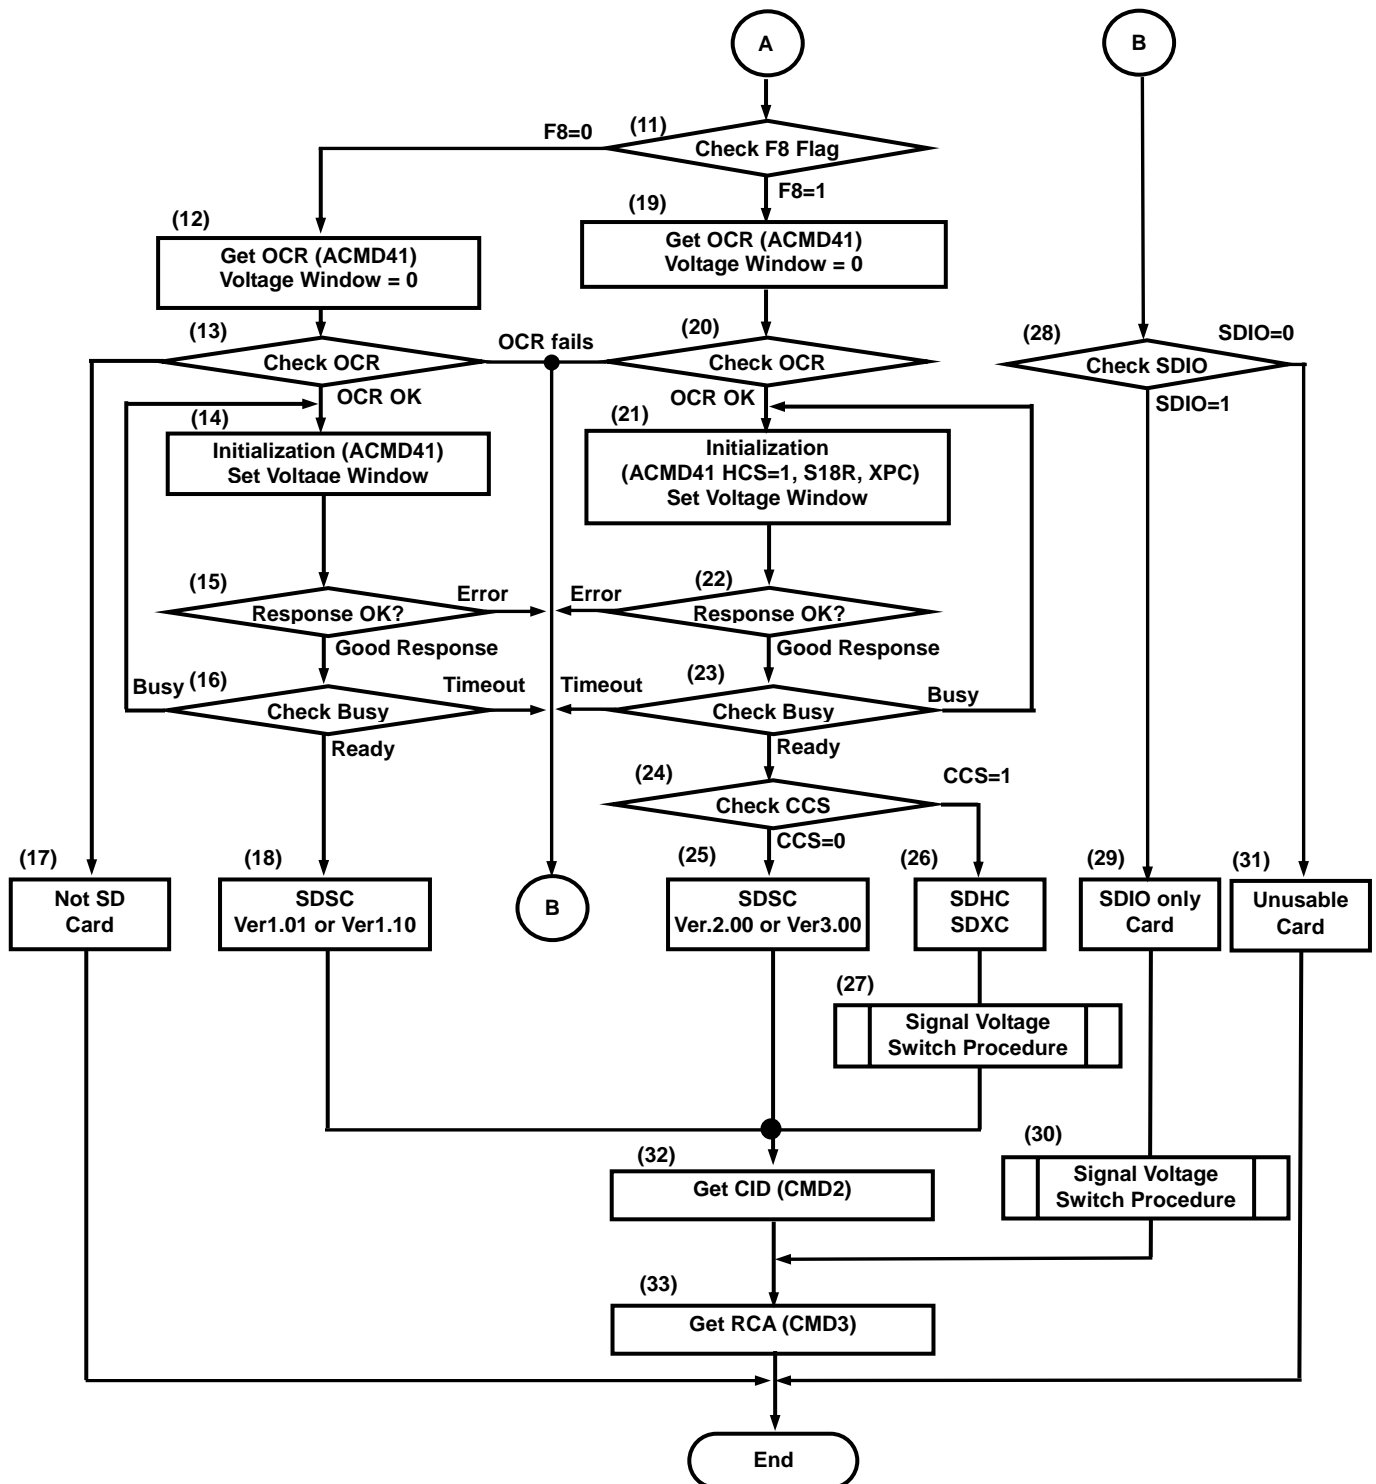

Figure 3-9 : Card Initialization and Identification
Figure 3-9 shows new initialization and card identification sequence for the Standard Capacity SD Memory Card (SDSC), the High Capacity SD Memory Card (SDHC) and the Extended Capacity SD Memory Card (SDXC).
- (2) Issue CMD11.
- (3) Check response and if an error is detected, go to step (12)
- (4) Stop providing SD clock to the card.
- (5) Check DAT[3:0] level. If the level is 0000b, the card is ready to start voltage switch sequence. Otherwise, go to (12) to quit the sequence.
- (6) Set **1.8V Signal Enable** in the *Host Control 2* register.
- (7) Wait 5ms. 1.8V voltage regulator shall be stable within this period.
- (8) If **1.8V Signal Enable** is cleared by Host Controller, go to step (12).
- (9) Provide SD Clock to the card again.
- (10) Wait 1ms.
- (11) Check DAT[3:0] level. If the level is 1111b, switch to 1.8V signal level is completed successfully. Otherwise, go to (12).
- (12) If an error occurs during voltage switch procedure, stop providing the power to the card. In this case, Host Driver should retry initialization procedure by setting S18R to 0 at step (7) and (21) in Figure 3-9.